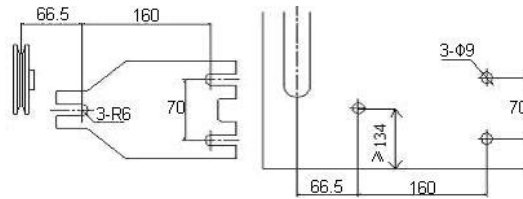

Fig.2-1
(1) Motor Installation
Step 1: Mount lifting bracket. When motor installed under the machine table, as needed, to drill holes in the following diagrams (see Fig. 2-1 the example for USA base table) for the installation, mount lifting bracket.